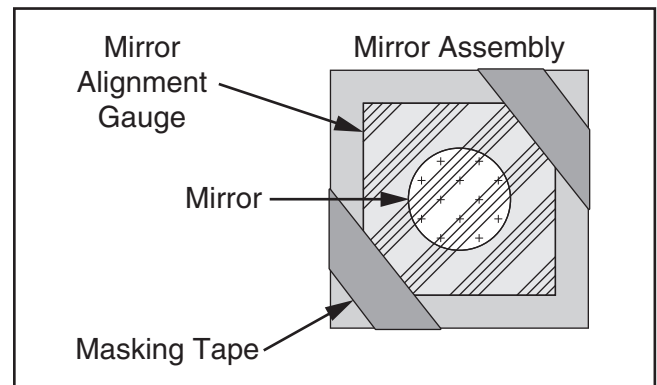

Figure 112. Mirror alignment gauge installed.
19. Place mirror alignment gauge in front of primary Mirror #2 and hold in place with masking tape, as shown in **Figure 112**.